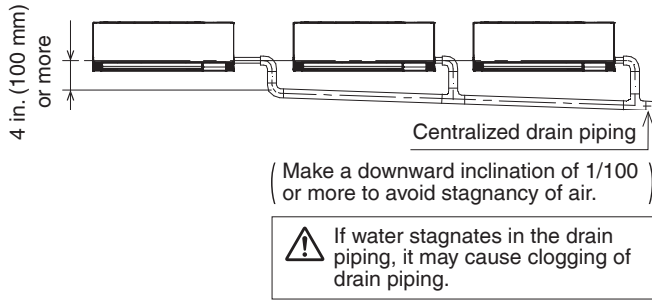

Fig. 27
- In case of centralized drain piping, carry out piping work according to the procedure shown in the following Fig. 27.